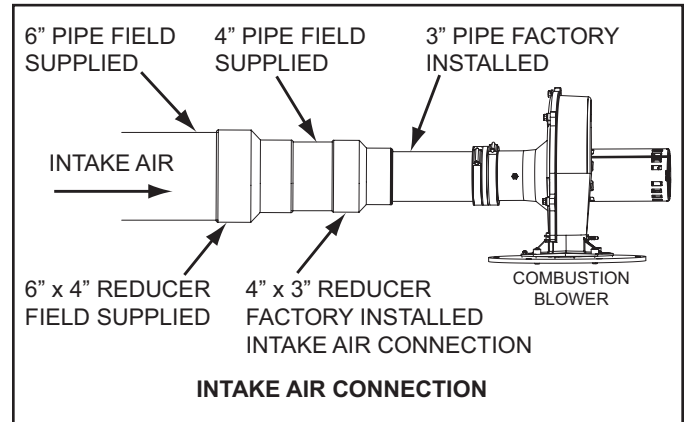

Figure 18
15. If installing 6" intake air pipe transition to 4" pipe at the intake air connection on the water heater as shown in Figure 18. The field installed 4" pipe between the intake air connection and the 6" x 4" reducer coupling should be 18 inches (45 cm) or less in length.